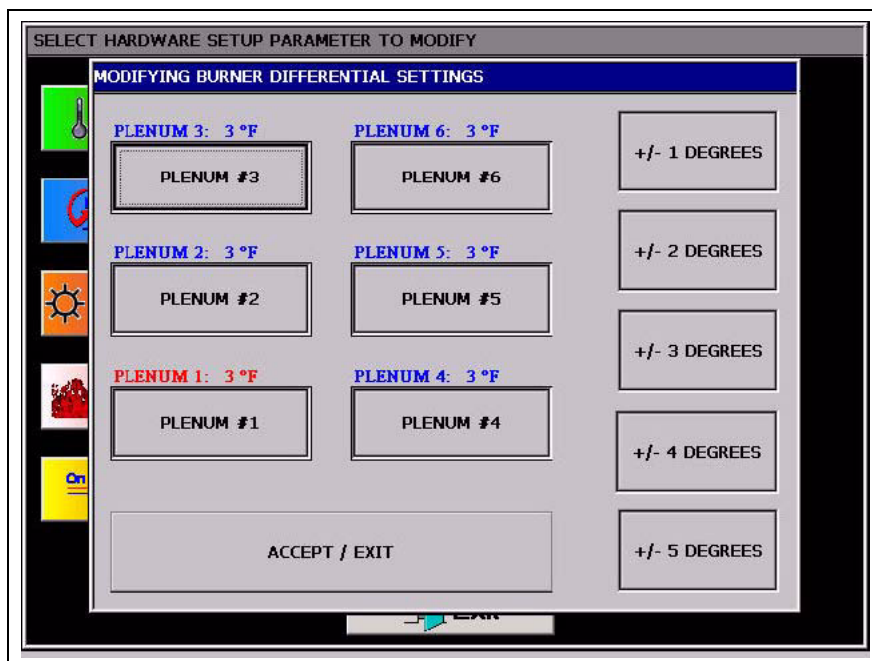

Figure 6K
2. **Differential:** Touching the Differential button will display the Modify Burner Differential Settings screen. (See Figure 6K.) Adjusting the burner differential settings allows the operator to keep the plenum temperature within a certain range. For example: If you have the temperature set point at 180° and you select  $\pm 3^\circ$  as the burner differential, then the burner will switch to low heat at 183° and back to high heat at 177°. To modify a burner differential setting first touch the Plenum button you wish to modify, then select one of the five (5) differential setting button on the right side of the Modifying Burner Differential Settings screen. Touch the Accept/Exit button to save settings and return to the Select Hardware Setup Parameter to Modify screen. **NOTE:** Tower dryer only have plenum #1.